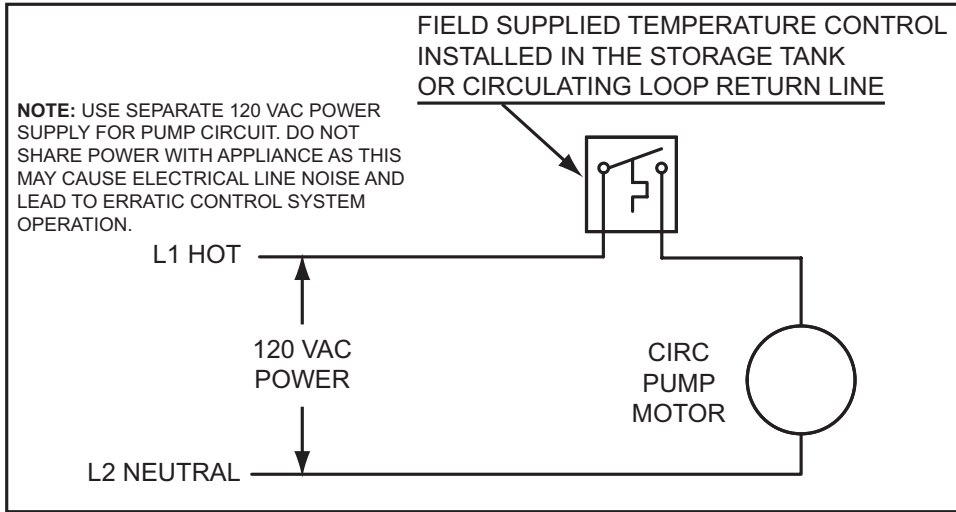

Figure 62
6. If a pump is being installed between a water heater and storage tank or on a building recirculation loop wire according to Figure 62 on page 69.